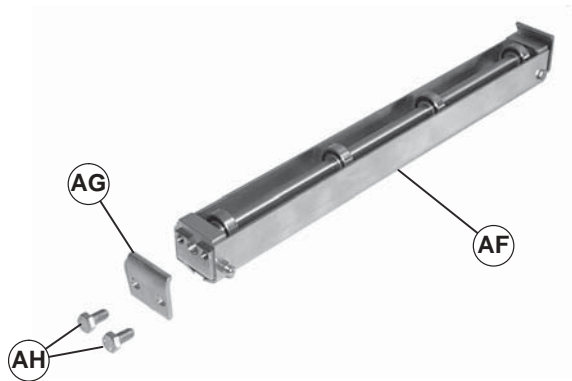

Figure 14
1. Typical return roller components (Figure 14)